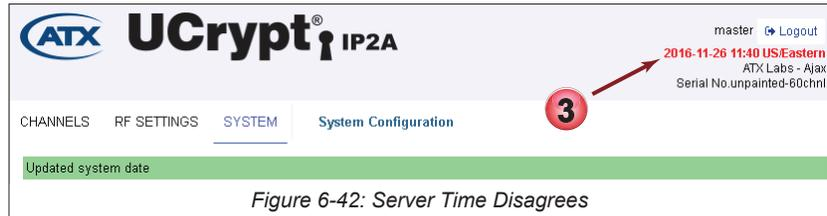

Figure 6-42: Server Time Disagrees
3. If an incorrect time and date is entered, there may be a discrepancy reported in the entered time against the time and date on your management PC, Figure 6-42. In this case adjust the entered date to the correct date and time.